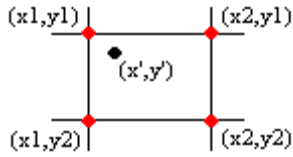

Figure 3 - Bilinear
Bilinear (BI) resampling uses the pixel values of the four nearest neighbors. A set of linear weights is used so that the closest neighbors are weighted more heavily in the final pixel value (see Figure 3). The following equations specify how (x', y') is calculated using bilinear interpolation.